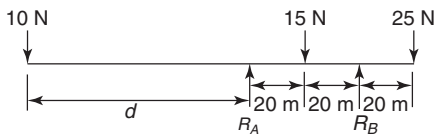

Figure 5.18
3. For the force system shown in Figure 5.18, determine distance d for the forces R_A and R_B to be equal, assuming equilibrium conditions. [80 m]